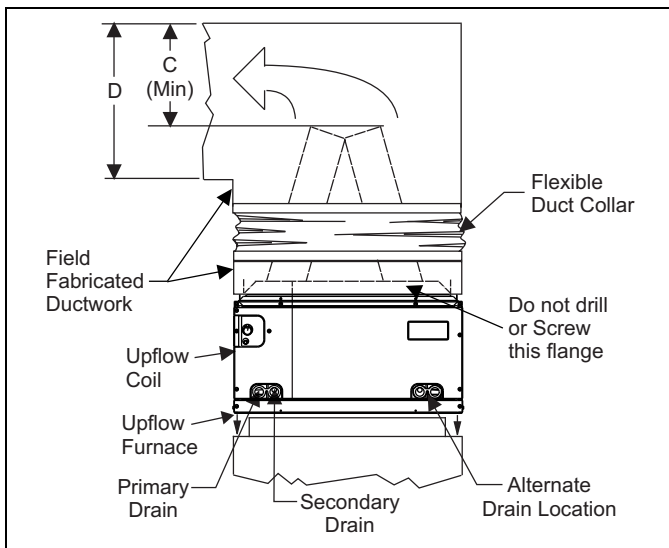

FIGURE 6: PC Series Upflow Coil Installation
1. Position the coil casing over the furnace opening as shown in Figure 6.
Do not drill any holes or drive any screws into the front duct flange on the coil in order to prevent damaging coil tubing. See Figure 6.
Dimension "C" should be at least 2/3 of dimension "D". See Figure 6.